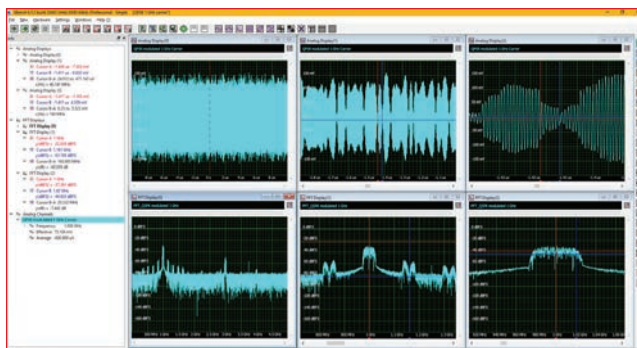
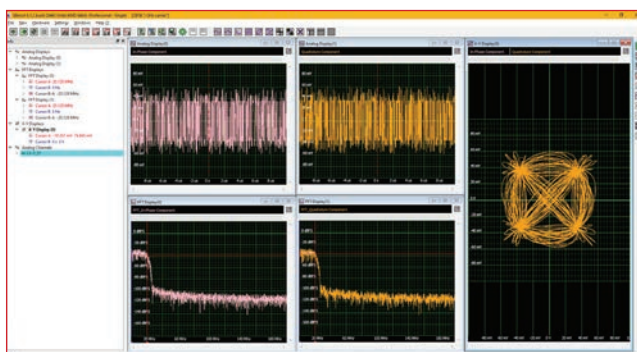

Fig. 1 Response of a 1 GHz QPSK-modulated signal sampled at 10 GSps.
Fig. 2 I/Q, FFT and trajectory plot of 12.8 Gbps data stream.
to 140 GHz and is shown in **Figure 1** to 2.5 dB for model SWJ-05-T1, which operates from 140 to 220 GHz. Measured insertion loss and isolation results for the WR-05 SWJ-05-T1 switch are shown in **Figure 2**.
▲ **Fig. 1** SWJ-08-T1 electromechanical transfer switch.
▲ Fig. 2 Typical insertion loss and isolation for model SWJ-05-T1.
The new M5i digitizers are suitable for many applications. One such example is testing high speed communications channels using quadrature modulation. **Figure 1** shows an example of the acquisition of a 1 GHz carrier modulated by a 40 Mbaud quadrature phase shift keyed (QPSK) signal displayed using Spectrum Instrumentation's SBench 6 measurement software.
Twenty microseconds of the QPSK signal were acquired at 10 GSps. The FFT of the signal has a peak at the carrier frequency of 1 GHz. Modulation sidebands spaced at 160 MHz extend symmetrically from the carrier frequency. The signal components show significant energy out to 2 GHz and the harmonic of the carrier at 3 GHz. The bottom center trace shows the details of the sideband structure. The 160 MHz spacing of the modulation sidebands is due to the sampling in the transmitter. This is shown in the period between phase breaks in the time domain waveform in the upper right trace, as measured by the cursors. Cursor readouts and measurements of the signal frequency, amplitude and mean value appear in the info panel on the left of Figure 1. The narrowest burst in the top center trace highlights the 40 Mbaud data rate. The modulating signals are bandlimited to 20 MHz as seen in the expanded FFT in the lower right trace of Figure 1.
Transferring the data at up to 12.8 Gbps via the PCI Express x16 interface to a CPU or CUDA-GPU for custom processing creates the opportunity for further analysis, as shown in **Figure 2**. The demodulated in-phase (I) and quadrature (Q) signals on the top and their FFTs on the bottom show the effects of 20 MHz raised root cosine low-pass filtering that has been applied to the signals. The cross plot of the I and Q components on the far right of the display in Figure 2 produces the trajectory diagram highlighting the transitions between digital states.